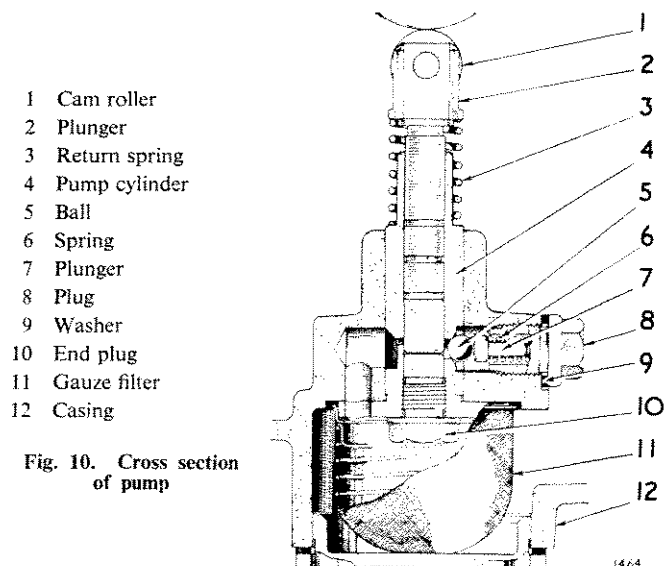

Fig. 10. Cross section of pump
The pump shown on Fig. 10 delivers oil via a non-return valve to the accumulator. Possible sources of trouble are (1) ineffective non-return valve due to foreign matter on the seat or to a broken valve spring, (2) broken pump plunger spring, and (3) choked air bleed causing air to be trapped inside the pump. If this occurs, remove the pump and clean the flat of the pump body and the bore of the casting into which it fits.